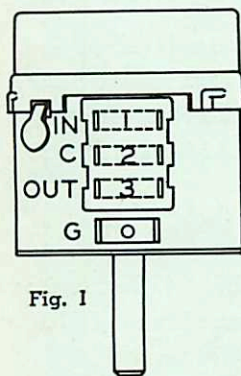

Fig. 1
- (a) Left and right hand ears of terminals 1, 2 or 3 can be separated internally upon assembly to form 3, 4, 5 or 6 lug board. (See Fig. 1 for dotted links which can be separated.)
- Shield ground lug available upon request. (See Fig. 1.)